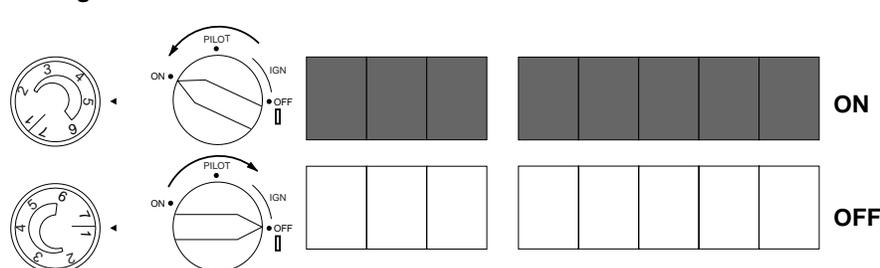

Figure 21 - Burner Patterns
- When pilot is lit, turn the control knob to ON position (see Figure 21).
- To select desired heating level, turn the temperature setting knob counterclockwise between 1 and 7 (see Figure 21).